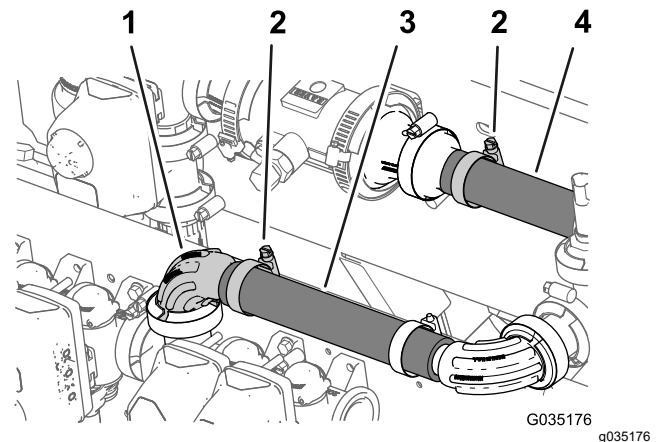

Figure 52
- Tighten the hose clamp that secures the hose (1 x 7-1/4 inches) to the barbed-flange fitting (1 inch) that you assembled in Installing the Pressure Transducer onto the Machine \(page 22\); refer to Figure 52.